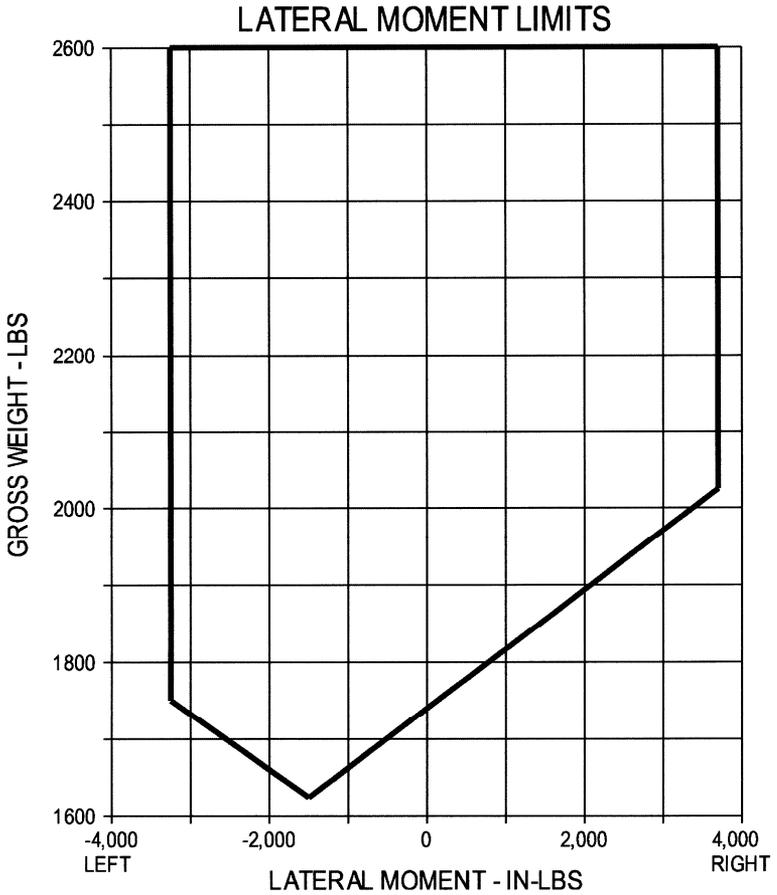
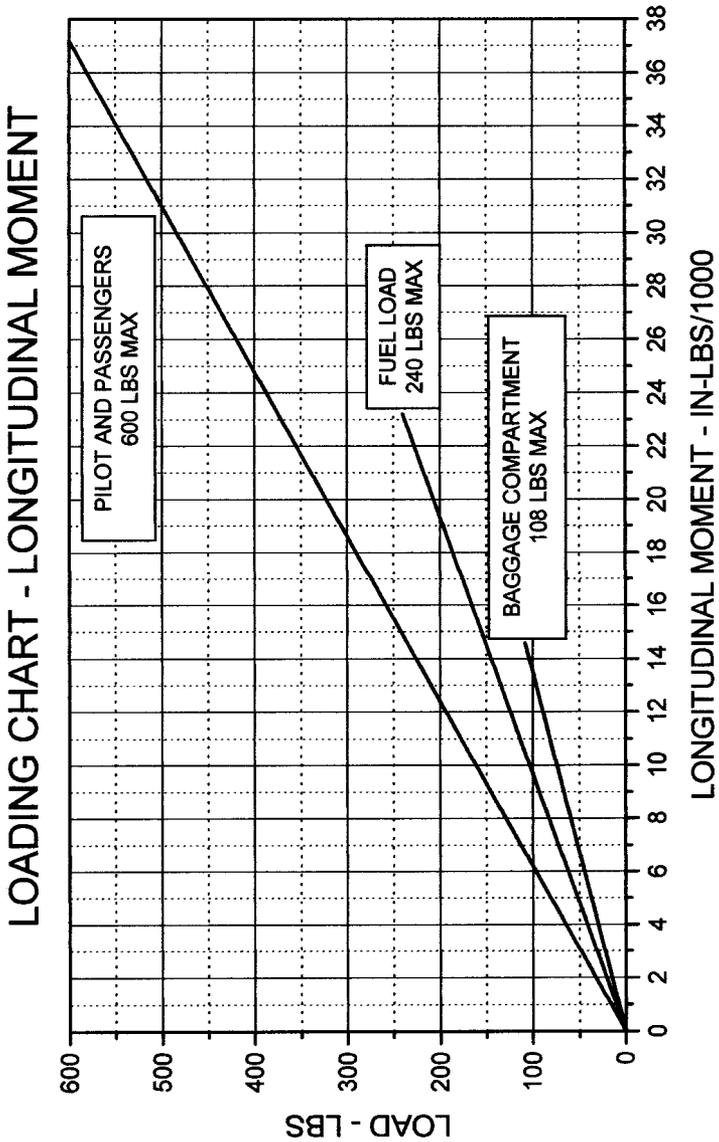

Figure 6-2. Lateral Offset Moment Envelope
Figure 6-5. Loading Chart
3. Approved lateral offset moments vary with gross weight from -3250 in-lb to +3700 in-lb (reference Figure 6-2). Lateral offset is the same for all V_{NE} envelopes.
1. It is the responsibility of the helicopter pilot to ensure that the helicopter is loaded properly. Using the running basic weight and moment from Form F-165A (Figure 6-8) and the Loading Chart (Figure 6-5), the pilot can obtain the total weight and moment for various loading conditions. The pilot should first calculate the total weight and moment for zero usable fuel, as this will show the c.g. shift with fuel burn-off. If the c.g. is within limits, add the planned fuel load and compute the c.g. If the c.g. is within limits, the last item to check is the lateral offset moment using the stations in Paragraph 6-2, Step 2 and Figure 6-2.
(1) Moments obtained by multiplying weight times arm or from Loading Chart, Figure 6-5.
(2) The longitudinal c.g. relative to the datum line is found by dividing the moment by the weight.
- a. Plot 2350 lb and +1610 in-lb on Figure 6-2 to ensure moment is in approved area.